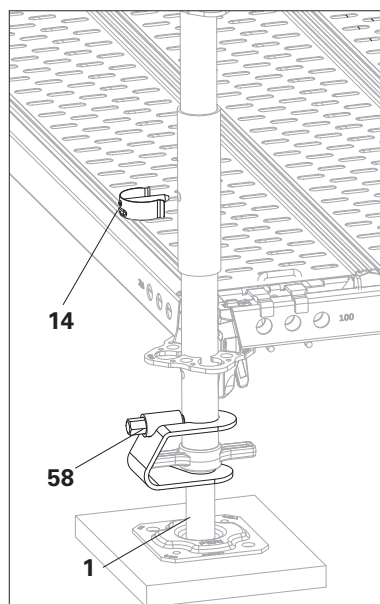

Fig. A2.04
Fit Standards UVR-2 with holes lined up so that the locking pins can be easily installed. (Fig. A2.04)
2. Tightly connect Base Standards UVB and Standards UVR-2 using locking pins  $\text{Ø } 48/57$  (**14**). (Fig. A2.04)